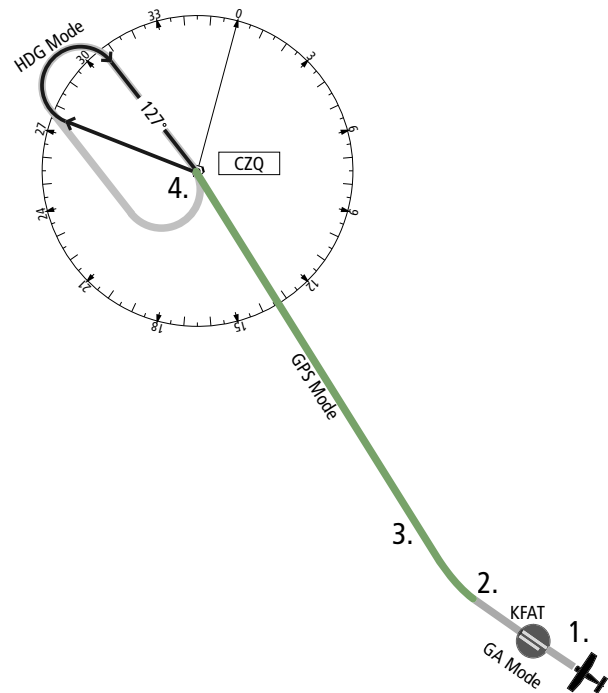

Figure 6-27 Go Around / Missed Approach
- d) Select the **SUSP** Softkey to resume sequencing approach legs to the Missed Approach Hold Point (MAHP). The autopilot flies direct to Clovis VORTAC according to the loaded approach (see Figure 6-27).